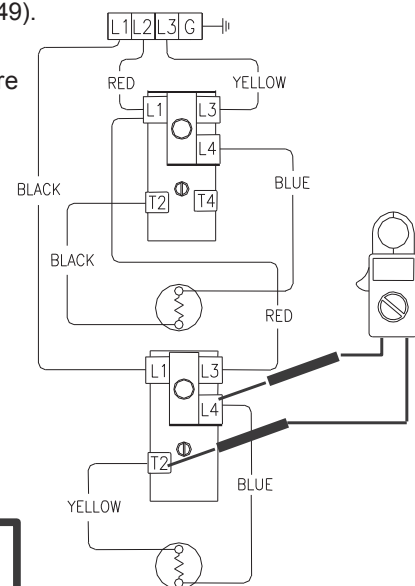

Figure 49
7. Check across terminal L4 of lower thermostat and T2 of lower thermostat (see Figure 49).